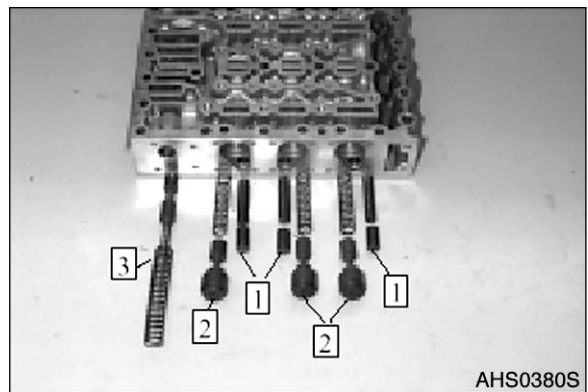

Figure 55
1. Figure 55, shows the following components:
2. Install components according to Figure 55.